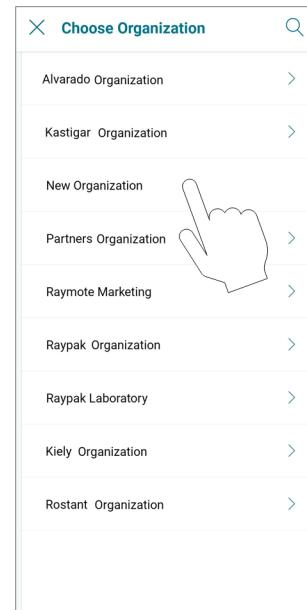

**Figure 133. User Menu**
1. Open the main menu by clicking the top left icon. See **Figure 133**.